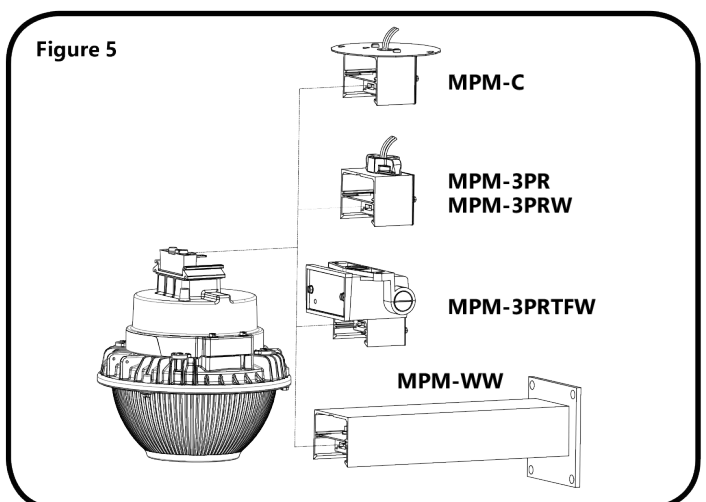

Figure 5
4. Slide the extrusion attached to the luminaire completely onto the hanger extrusion and fully seat the PED connector (see figure 5).